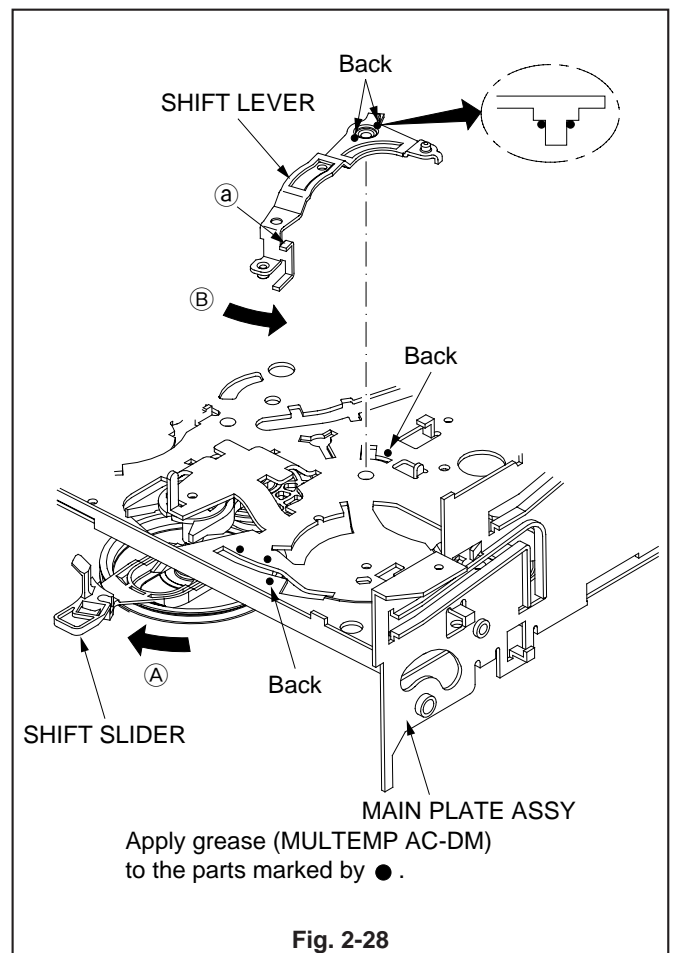

Fig. 2-28
1. Move the SHIFT SLIDER in Fig. 2-28 in the direction shown by arrow (A) to release it from the SHIFT LEVER.
2. Move the SHIFT LEVER in Fig. 2-28 in the direction shown by arrow (B) to remove it.
1. Apply grease (MULTEMP AC-DM)[859D055O90] to the specified parts on the new SHIFT LEVER in Fig. 2-28.
2. Apply grease (MULTEMP AC-DM)[859D055O90] to the specified parts on the MAIN PLATE ASSY in Fig. 2-28.
3. Install the SHIFT LEVER so that Part (a) shown in Fig. 2-28 is positioned under the MAIN PLATE ASSY.